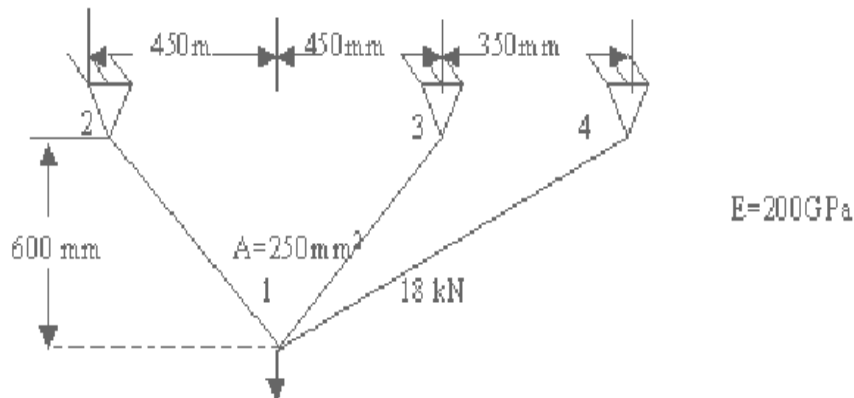

Figure 2
5. Determine the displacement at node 1 of the truss structure as shown in the figure 2: [16]